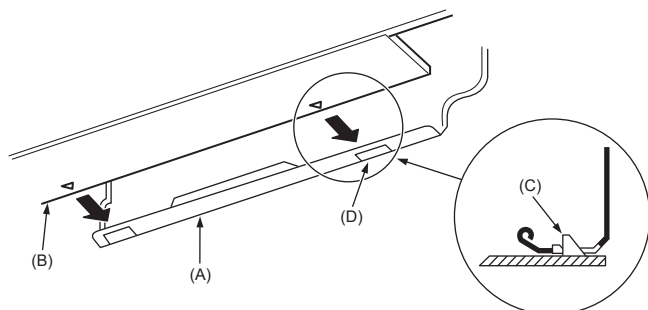

Fig. 3-15
3. While inserting the refrigerant piping and drain hose into the wall penetration hole (penetration sleeve), hang the top of the indoor unit to the mount board (1).
5. Fasten by pushing the bottom part of the indoor unit onto the mount board (1). (Fig. 3-15)
- * Check that the knobs on the bottom of the indoor unit are securely hooked into the mount board (1).
- (A) Mount board (1)